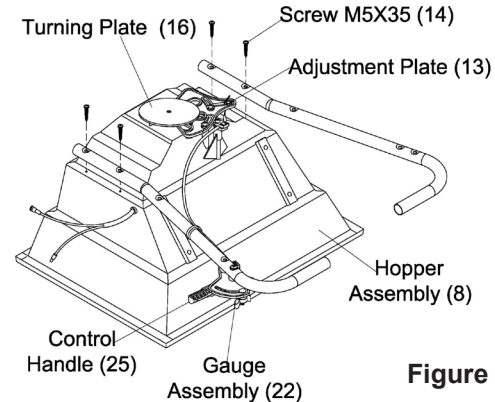

Figure 1
2. Mount the two sides of the Frame Rail (21) to the Hopper Assembly (8) using Screws M5 x 35 (14).
3. Position the Gauge Assembly (22) to either Frame Rail (21) based on whether the Hopper Assembly (8) is to be mounted on the front, or rear rack of the ATV. If mounted on the rear rack, the Control Handle (25) should be on the right Frame Rail (21). If mounted on the front rack, place the Control Handle (25) on the Left Frame Rail (21). See **Figure 1** below.